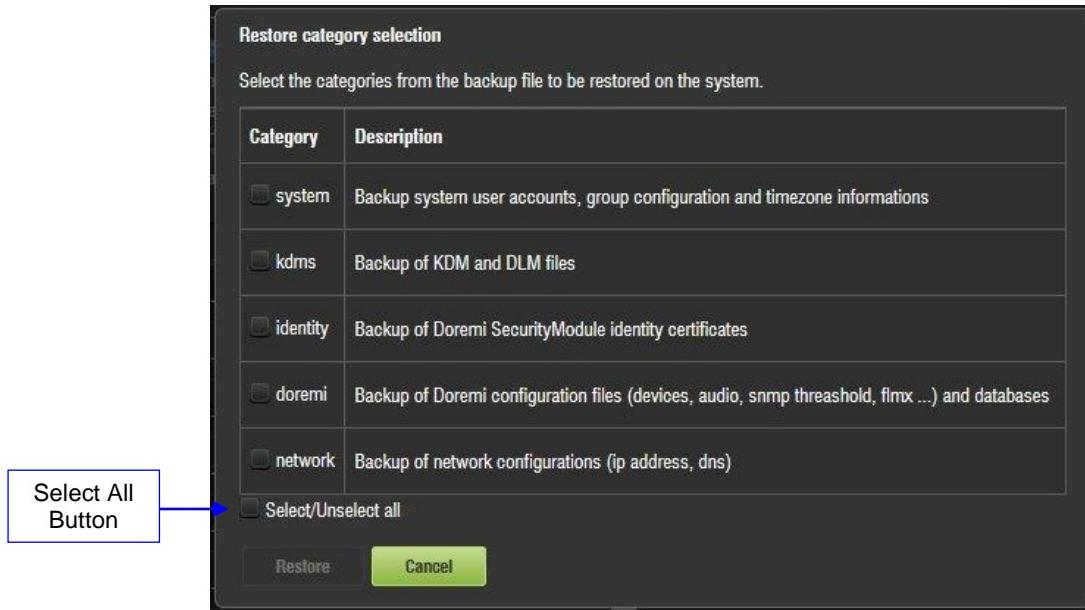

Figure 205: Restore Category Selection Window
- The Restore Category Selection window will appear (Figure 205). Here, you will be able to choose which types of files to restore, or you can select all files to restore: